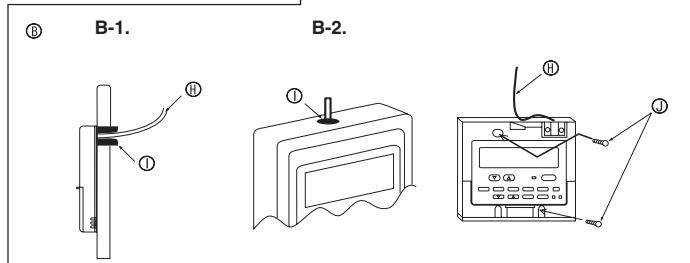

Fig. 6-3
- (2) Seal the service entrance for the remote controller cord with putty to prevent possible invasion of dew drops, water, cockroaches or worms. (Fig. 6-3)
[Fig.6-3]